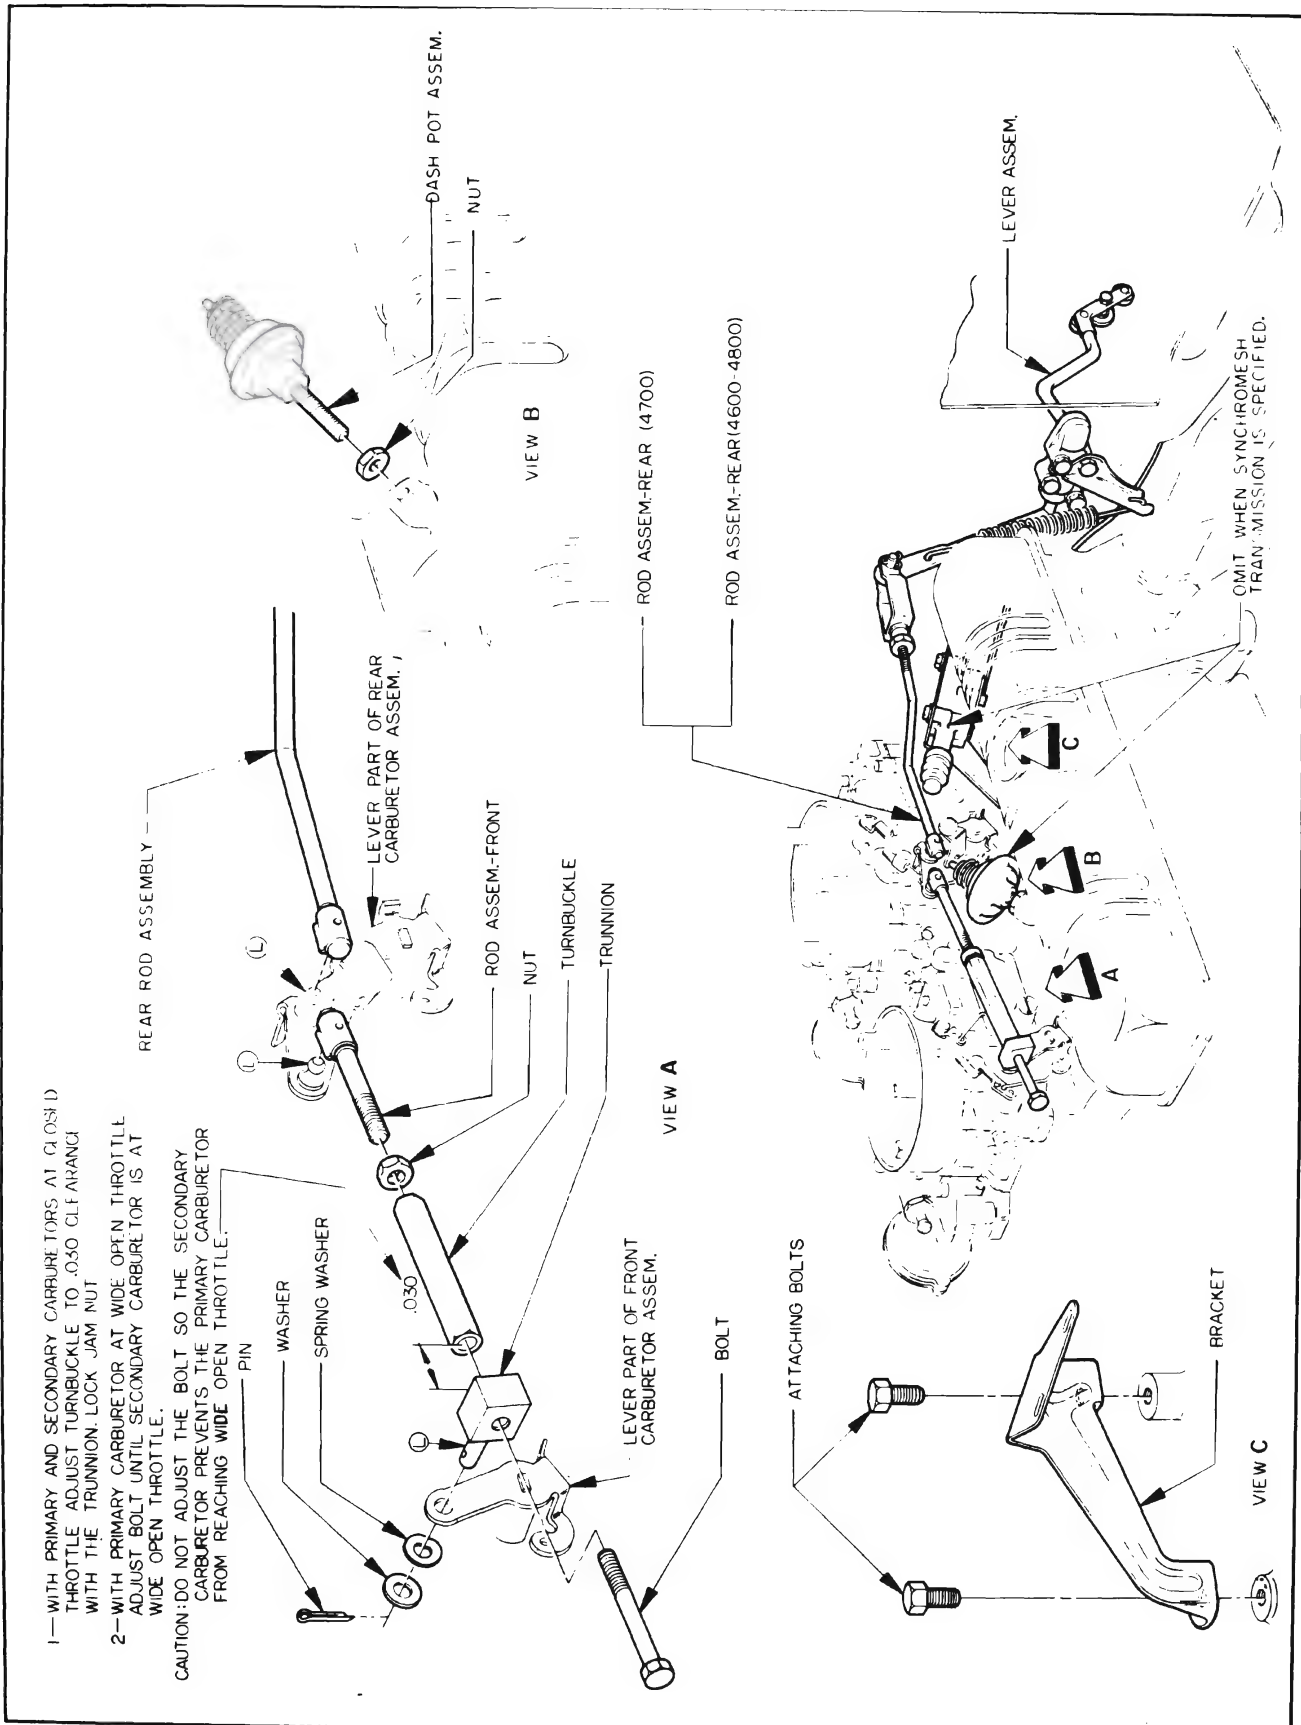

Figure 3-91—Throttle Control Information-Dual 4-Barrel
3. With both carburetors held at closed throttle, adjust turnbuckle until it just contacts trunnion of front carburetor, then back-off turnbuckle one turn and tighten lock nut. See Figure 3-91.